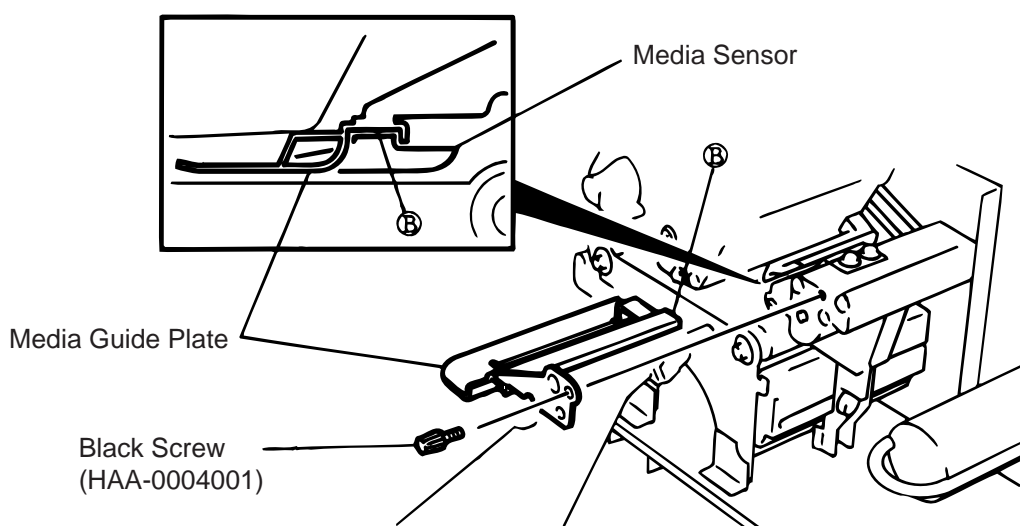

Fig. 10-2
3. Turn the head lever to position ③, then release the ribbon shaft holder plate.
4. Remove the black screw to detach the media guide plate. (See Fig. 10-2.)
8. Place the portion ⑥ of the media guide plate on the media sensor. Secure the media guide plate with the black screw.